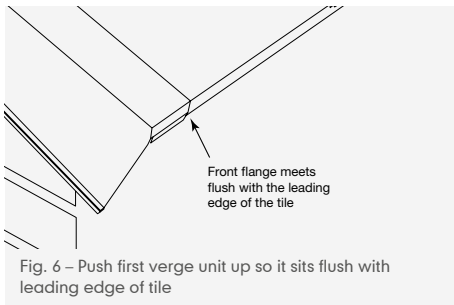

Fig. 6 – Push first verge unit up so it sits flush with leading edge of tile
- 6 Push the verge unit up so the front flange meets flush with the leading edge of the tile (Fig. 6). Fix the verge unit to the tiling batten by means of mechanical engagement using the Marley batten end clip using the appropriate hole (nearest to the centre of the tiling batten).